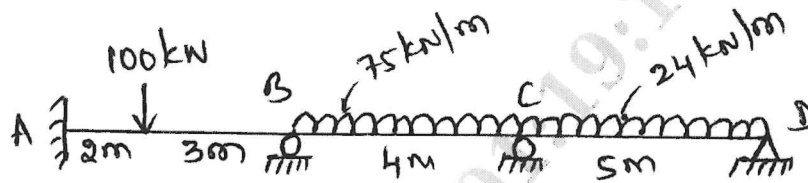

Fig.Q7
- Q.7 Analyze the continuous beam shown in Fig.Q7 by slope deflection method. Draw Bending moment diagram and Elastic curve. 20 L4 CO4